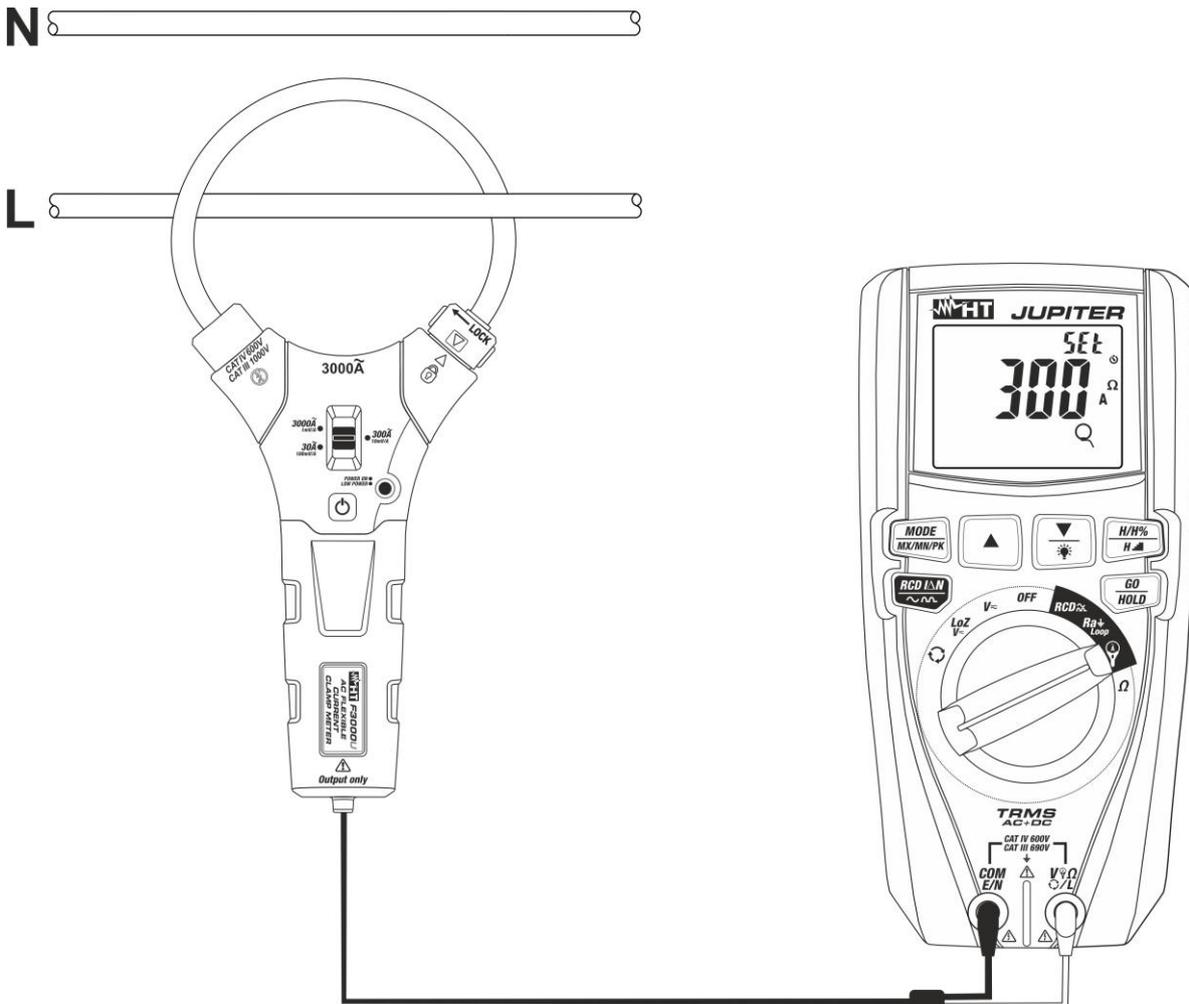
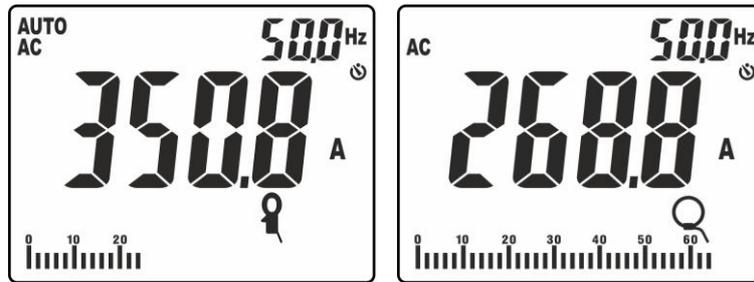

Fig. 38: Use of the instrument for current measurement with clamp transducer
Fig. 39: Result of AC current measurement with standard and flexible clamp
8. Insert the cable into the center of jaws (see Fig. 38). The value of current is shown in Fig. 39